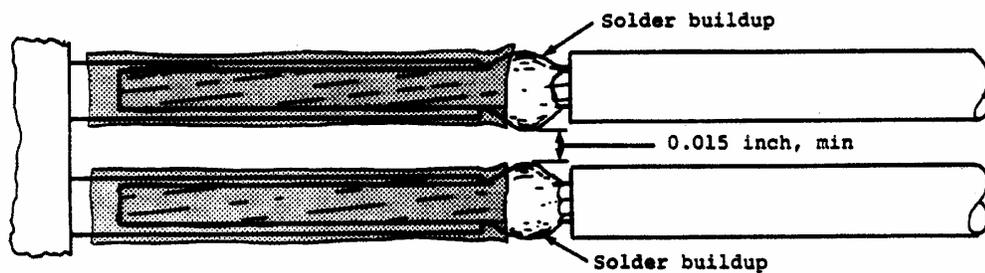

Figure 6-2. Inspection for Conductor Minimum Spacing
2. The distance between electrically conductive surfaces must not be less than 0.015 inch as shown in Figure 6-2.